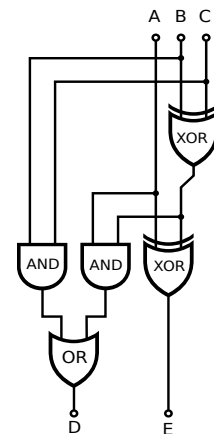
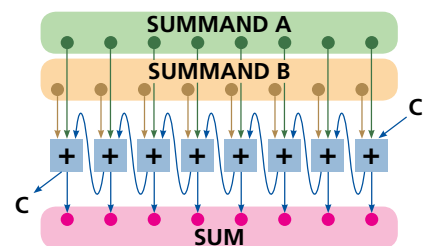

Figure 3: An adder that calculates the sum of two binary numbers.
Figure 4: An adder chain that calculates the sum of two 8-bit numbers.
To add together two arbitrary binary numbers, we need an element known as an adder (Figure 3) that takes in three bits (A, B and C) and outputs their sum in two bits (D and E). The upper bit of the sum (D) can be routed to the input of another adder, which allows eight parallel adders to be chained together in order to form an addition circuit for two 8-bit numbers (Figure 4).